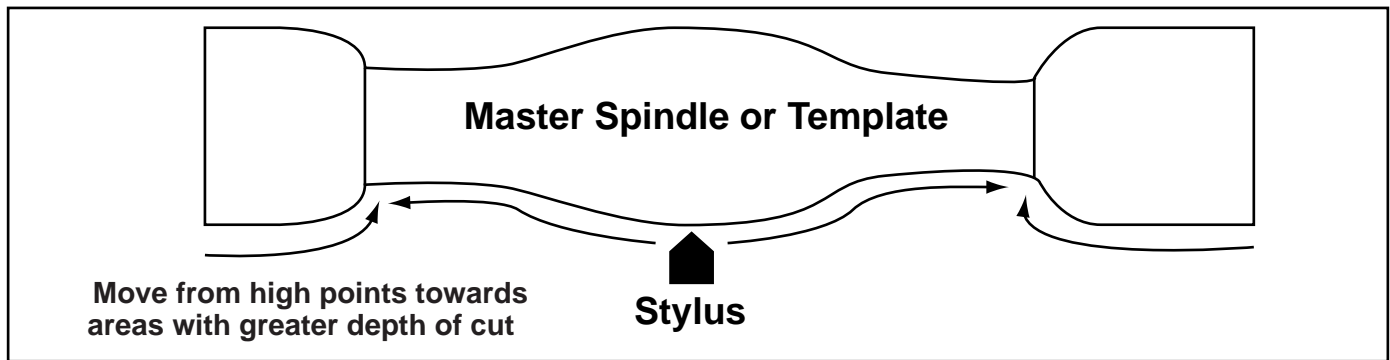

Figure 12. Recommended direction of stylus travel.
- When making copies, always move the stylus so it follows the template or master profile "downhill". Trying to move the stylus "uphill" along the template will cause the stylus and cutter to dig into the template and workpiece. **See Figure 12** for recommended direction of cuts.
3. Move the carriage with the longitudinal handwheel until the tip of the cutter is precisely located at the point on the workpiece where you want the turning action to begin. **See Figure 12.**